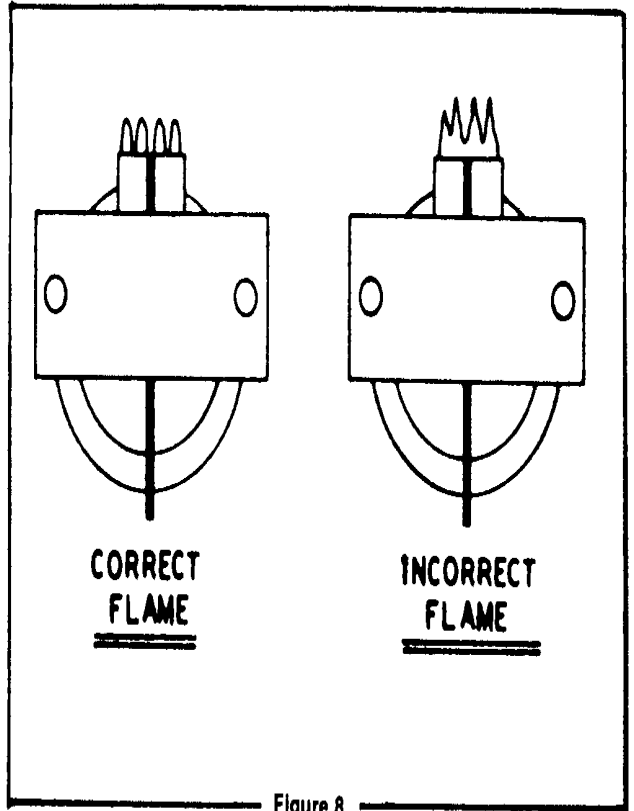

Figure 8
15. If the electrode sparks and the valve opens but the burner will not light, check the gas supply for 11" WC pressure to the main burner orifice. If 11" is present to the valve but not to the orifice, replace the valve. Check vent and air intake installation. Check the main burner for correct relationship to the electrode assembly (burner should be 3/16" from the spark probe and sawports or charge ports directly under the spark gap). Check main burner for soot build-up in ports (see Figure 8). Clean cast-iron burners by passing a hacksaw blade through the sawports, being careful not to enlarge the openings. Wire brush stainless tube burners to remove build-up.